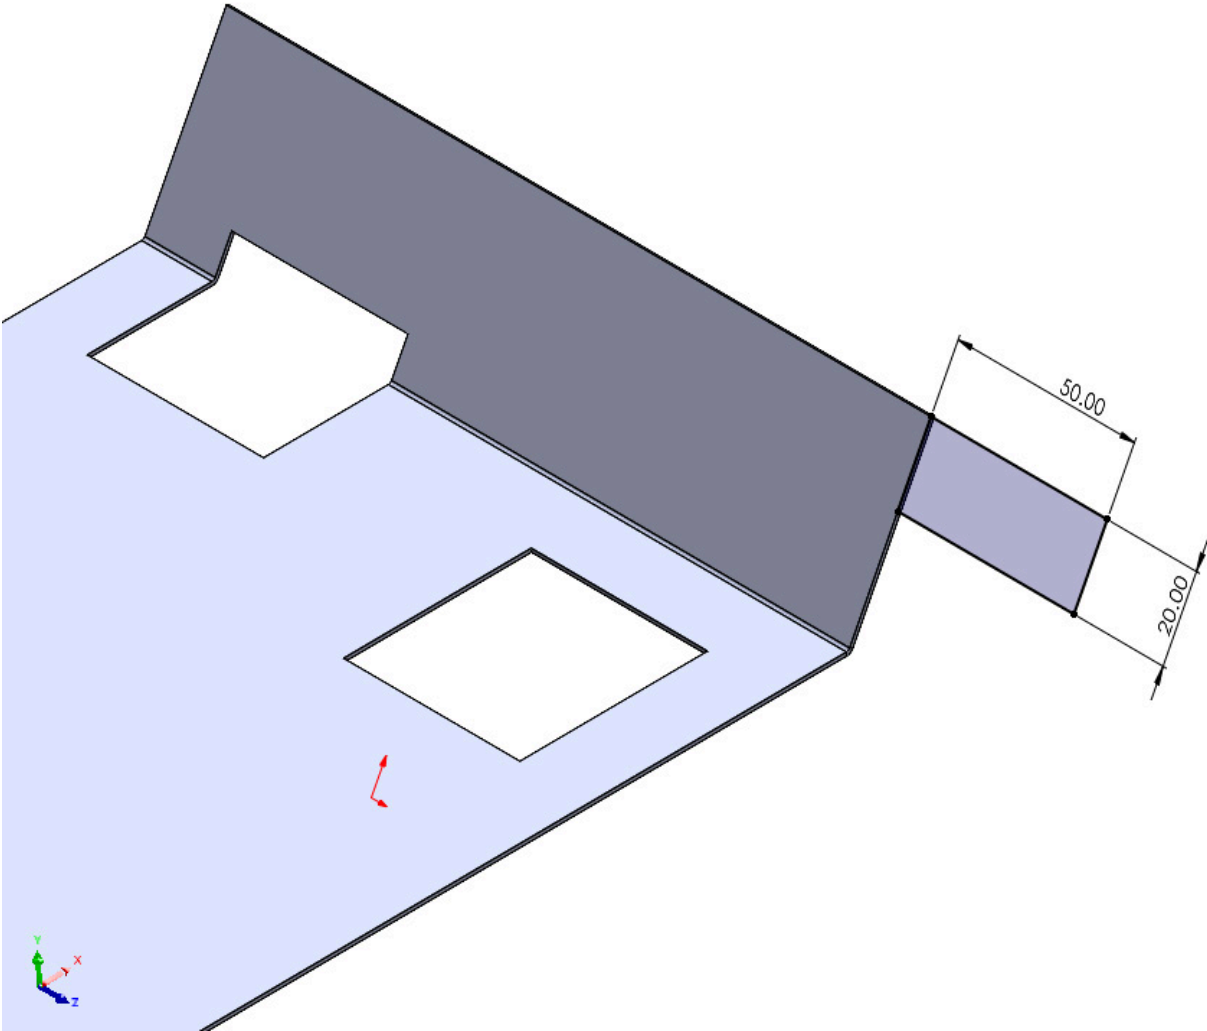

Figure 3.8: New Tab profile sketch
2. First, create a sketch with the required profile. Select the desired face and sketch a Fully Defined profile. In this example, a **50x20mm** section is added to the side of the existing **Edge Flange** (*Figure 3.8*).